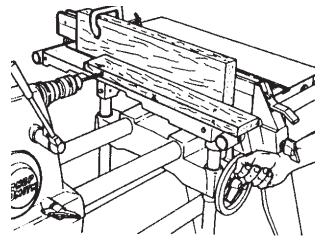

Figure C-34
3. Mark the holes on the stock, and lay it against the scrap. Make fine adjustments with the table height crank. See Figure C-34.